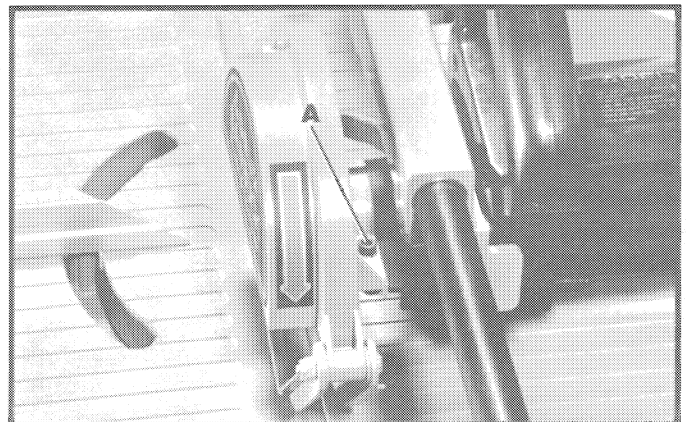

Fig. 42
2. Remove screw and lockwasher (A) Fig. 42, nut on threaded end of screw (A) and blade guard retainer bracket.